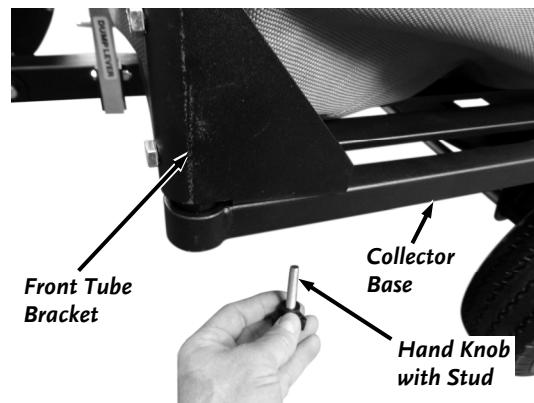

Figure 33
15. Secure the front Tube Brackets to the Collector Base with two Hand Knobs with Studs for each Bracket (Figure 33). Do not tighten fully.